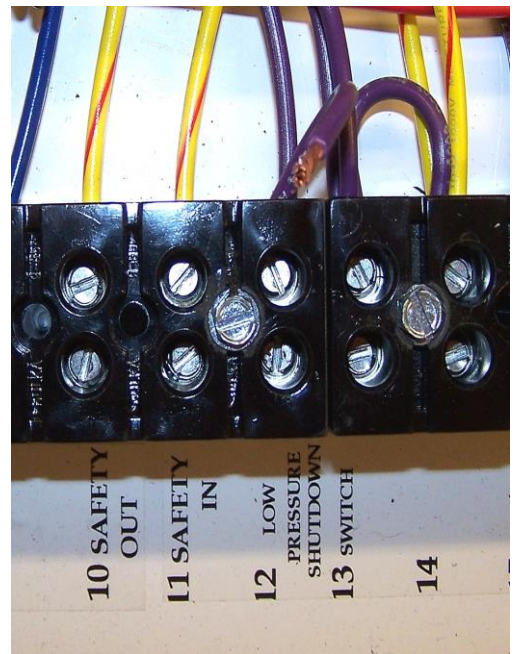

Figure 3
STEP 4 - Remove the terminal strip jumper connecting TS11 & TS12 (Figure 3).